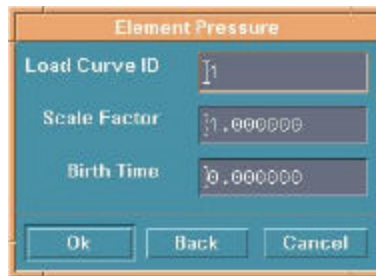

Figure 6.6.4 Define Element Pressure
- Define element pressure see Figure 6.6.4.
- Select OK in Figure 6.6.4 to select element to load.
- Select CANCEL in Figure 6.6.4 to exit.